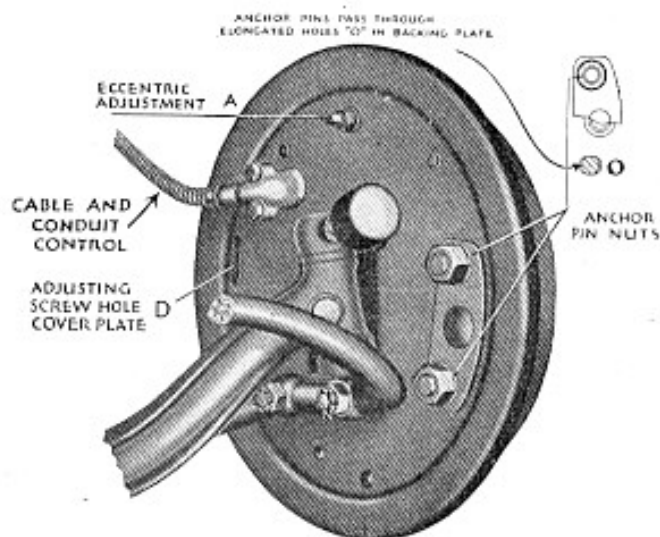

Fig. N27—Cable control type double anchor Bendix Duo-Servo brake as used on 1931 Studebaker cars
2. Loosen eccentric adjustment locknut (A. Fig. N27, 28). Turn eccentric adjustment in direction wheel rotates going **forward**, until a **very slight drag** is felt, then turn eccentric **back** until wheel is just free. Now **tighten** the locknut.
3. Loosen the anchor pin nuts (O Fig. N27) free of their lock washers. Tighten clearance adjustment notched wheel "D" until wheel can just be turned with both hands. Tap threaded ends of both anchor pins with a soft hammer; then tighten anchor nuts as tightly as possible with a sixteen inch wrench.
6. Use pedal depressor to check for even drag at all wheels. Try on testing machine or road and get final equalization by loosening clearance adjustment (D) at "tight" wheel.